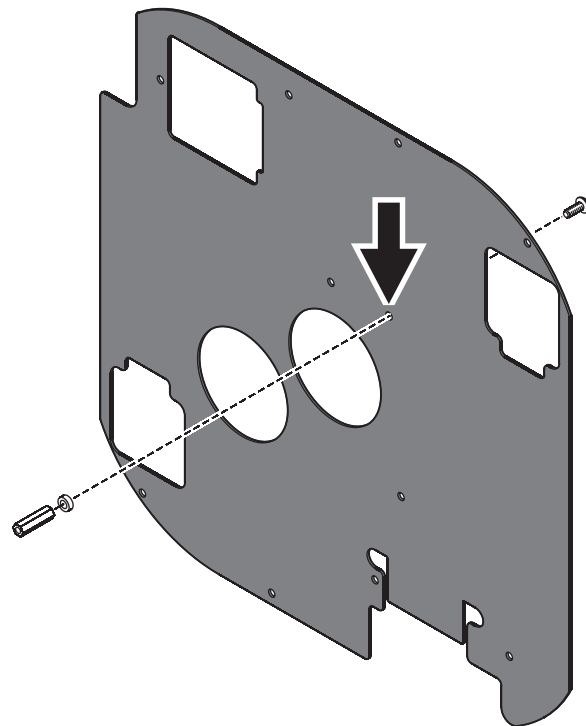

Figure 20
23. See Figure 20. Install one of the four spacers (P/N 08261011) and the female/female pillar (P/N 08053856) supplied in the kit on the hole (arrowed) in the new spill limiter plate (P/N 23819270) supplied in the kit. Make sure that you use the correct hole and install the spacer and pillar facing as shown in the illustration.